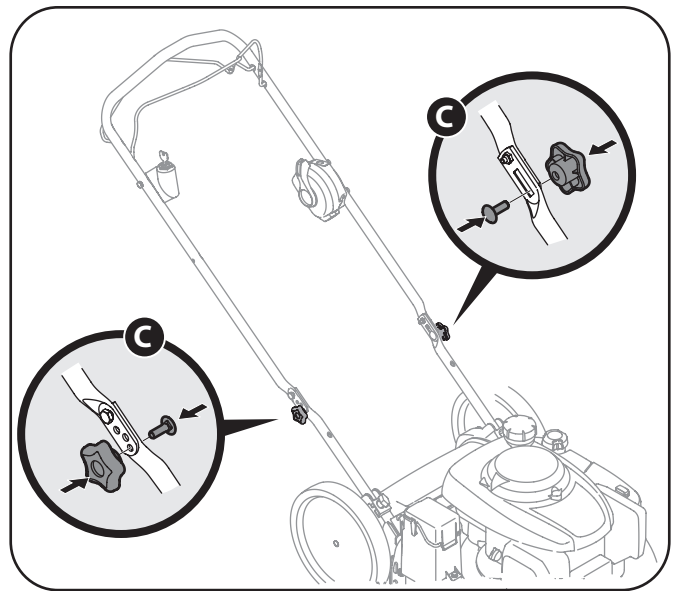

Figure 3-5
- c. Reattach knobs and carriage bolts removed earlier into lower holes of handle as shown in Fig. 3-5.